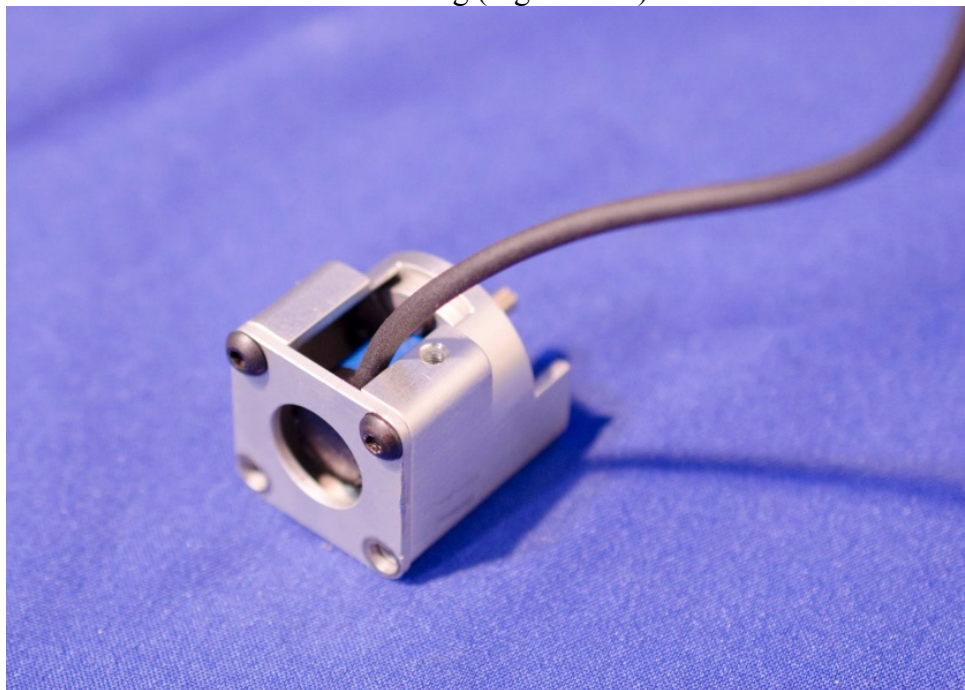

Figure 4-39. Attach rotary potentiometer cover
4.2.2.26 Attach the Neck Rotary Potentiometer Cover (472-2014) with two M3 x 0.5 x 5 BHCS at the bottom of the housing (Figure 4-39).